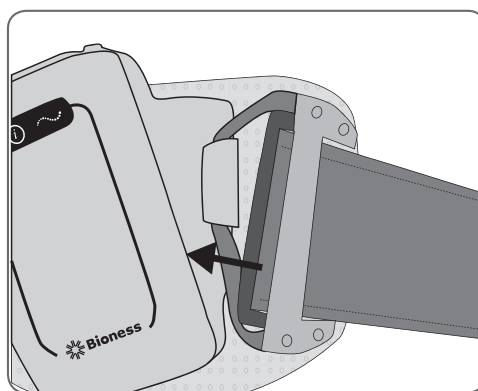

Figure 10-3: Removing the Thigh clinic straps.
3. Remove the straps from the Thigh FS Cuff. See Figure 10-3.